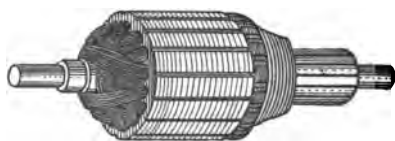
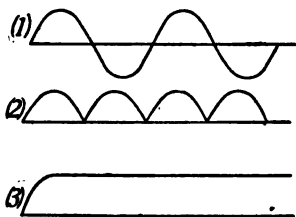

FIG. 289.—A drum armature.
FIG. 291.—Graphic representation of (1) an alternating current; (2) a pulsating current; (3) a continuous current.
magneto armature in that it consists of a series of coils of insulated copper wire wound in numerous slots cut in the surface of a cylindrical piece of iron. Fig. 289 shows a *side* view of the iron core of such an armature. Iron is used to form the body of the armature since the magnetic lines of force flow easily through the iron. The iron by its permeability also concentrates and increases the magnetic field. The best armatures are made of many thin sheets of soft iron. These are called *laminated* armatures. Armatures made of a solid piece of iron become hot when revolving in a magnetic field. This is due to electric currents produced in the iron itself. This heating is largely reduced by *laminating* the armature.
ducted to the outside circuits through the slip rings and brushes. Such a current which repeatedly reverses its direction is called an *alternating current*. Fig. 291 (1) indicates graphically how the current moves alternately one way and then the other. Alternating currents are extensively used for electric *light, heat, and power*. *Direct currents* or those going continuously in one direction are however in much demand especially for *street car service, for electrolysis, and for charging storage batteries*.
coils, into a direct current in the external circuit. Fig. 291 (1) represents graphically an alternating current, (2) of the same figure shows current taken from the brushes
A practical dynamo, however, has many coils upon its armature with a corresponding number of segments upon the commutator. (See Figs. 289 and 293.) As each coil and commutator segment passes a brush, it contributes an impulse to the current with the result that armatures with many coils produce currents that flow quite evenly. (See Fig. 291, 3).
The current represented in Fig. 291 (2) is called a *pulsating current*.